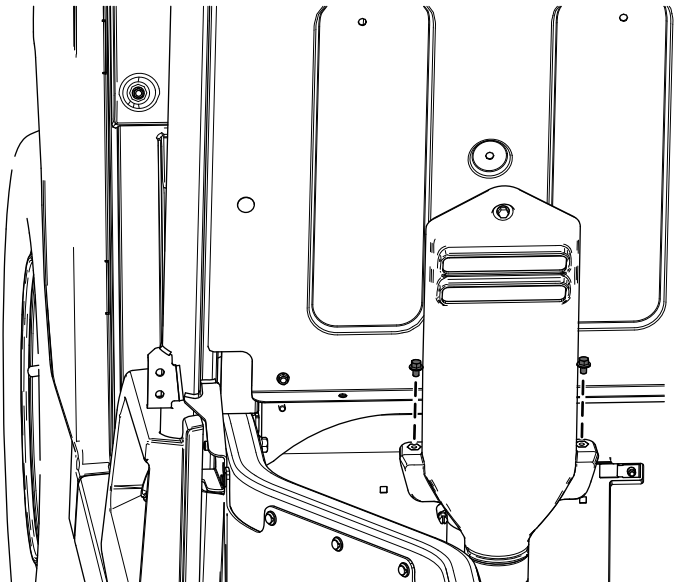

Figure 61
- A. Remove the 2 flange-head bolts (1/4 x 3/8 inch) from the CVT-intake hood (Figure 61). Retain the bolts.